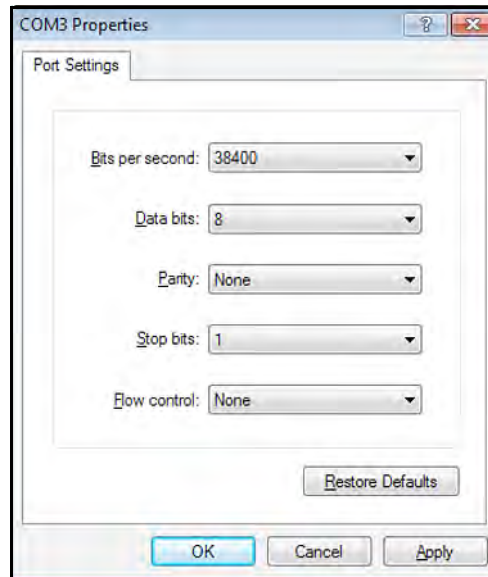

Figure 15: COM Properties
2. Start *HyperTerminal* and set up the communication link to match the Com port and RS232 settings of the PT878 (see *Figure 15* below).